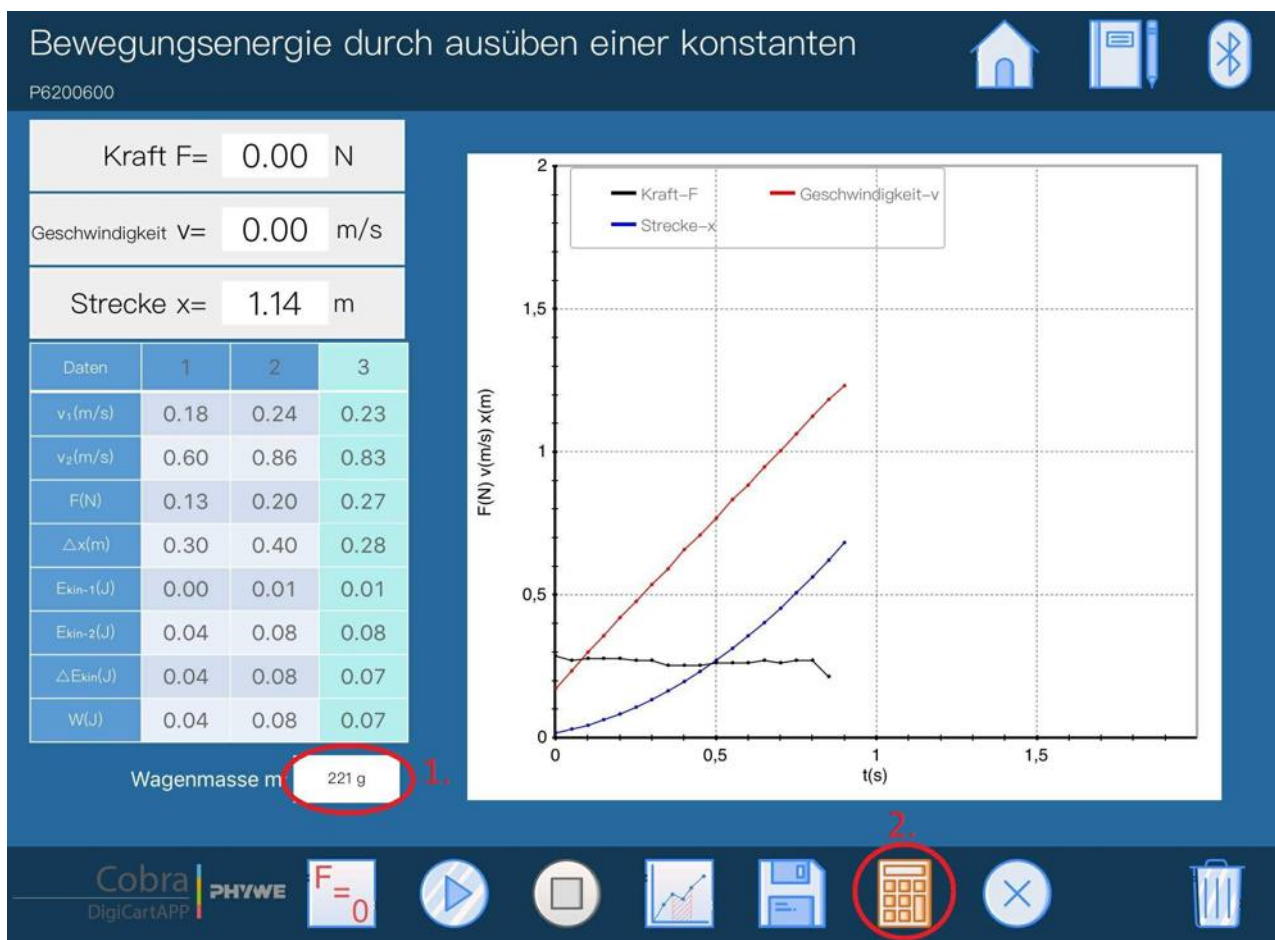

Figure 4: Evaluation procedure.
- Figure 4 shows the steps for the evaluation.
The table in Figure 4 shows that the difference between the two kinetic energies corresponds to the mechanical work performed. The work performed was completely converted into kinetic energy and thus fed to the DigiCart.